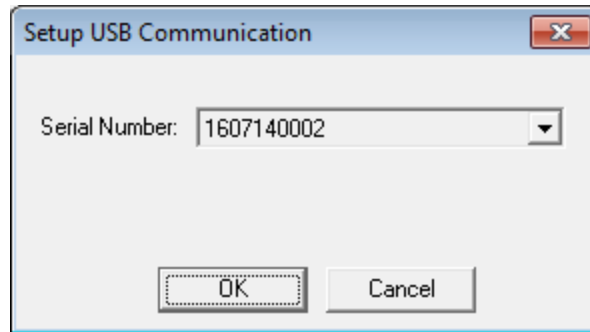

Figure 10. The Setup USB Communication Dialog
- After selecting **S3FlashIspII** from the Debug Tool drop-down menu, click **Setup** to select the serial number of the S3 Flash ISP II you are using, as indicated in Figure 10.
► **Note:** The serial number you see on your screen will be different from the serial number shown in Figure 10.